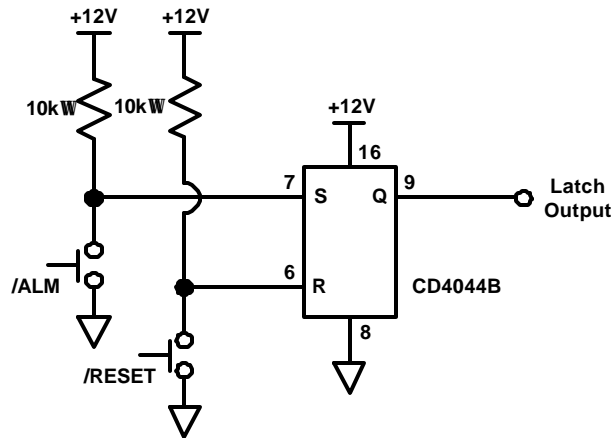

Figure 5.10
- I. Turn off the NI ELVIS board. Build the circuit shown in Figure 5.10. Be sure to connect Pin 5 (ENABLE) to high (+12V) to enable the device. You may need to push the /RESET button right after power on to initialize the circuit. Check the output (Q) level when you push /ALM switch or /RESET switch, and complete Table 5.4.